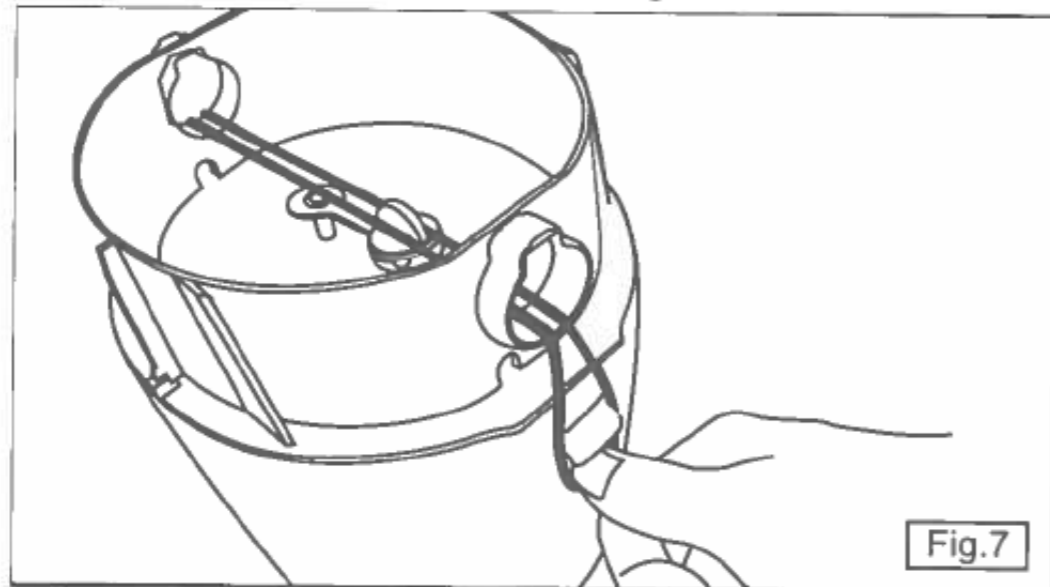

Fig.7
6. Remove the Inner Nose Cone. To do this, first feed the silicone ring (provided with this manual) through the latch holes in the Inner Nose Cone and pull over the hooks on the Battery Housing (see figure 7). Then screw the Pump Nozzle onto the Vent Hole and pump air into the Battery Chamber until the Inner Nose Cone pops off and then remove the silicone ring.